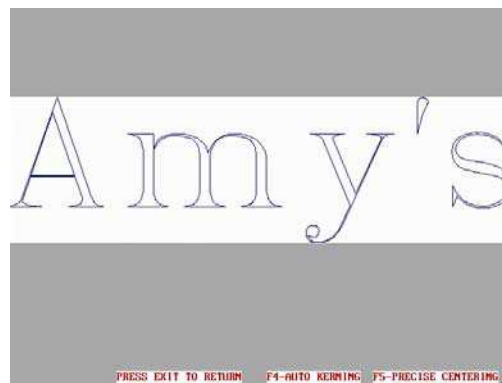

Figure 10
18. Open the engraver software and enter the text as you normally would and then go to **F2-FONT**, **F5-LOGOS**, **F6-SOURCE**, and **F1-A: _DRIVE**. Press **F12-DISPLAY SCREEN** to view. See Figure 10. Notice that the two dots you set to define the height are visible. However, they will NOT engrave even though they are visible on the display screen.